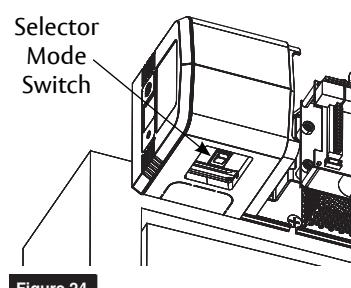

Figure 24
WARNING: Door may begin to move immediately when power is applied. An open union assembly door on a PULL unit has potential to pinch fingers if hand is not withdrawn quickly when switching on power. (Figure 24)
5. Place selector mode switch of union assembly in ‘ON’ position for activation by push plate, RF button, or other activation devices. Place switch in ‘H/O’ for continuous hold open. (Figure 24) Secure union assembly door with #4 Phillips screw when finished.
WARNING: Door may begin to move immediately when selector mode switch is changed. An open union assembly door on a PULL unit has potential to pinch fingers if hand is not withdrawn quickly when adjusting switch. (Figure 24)